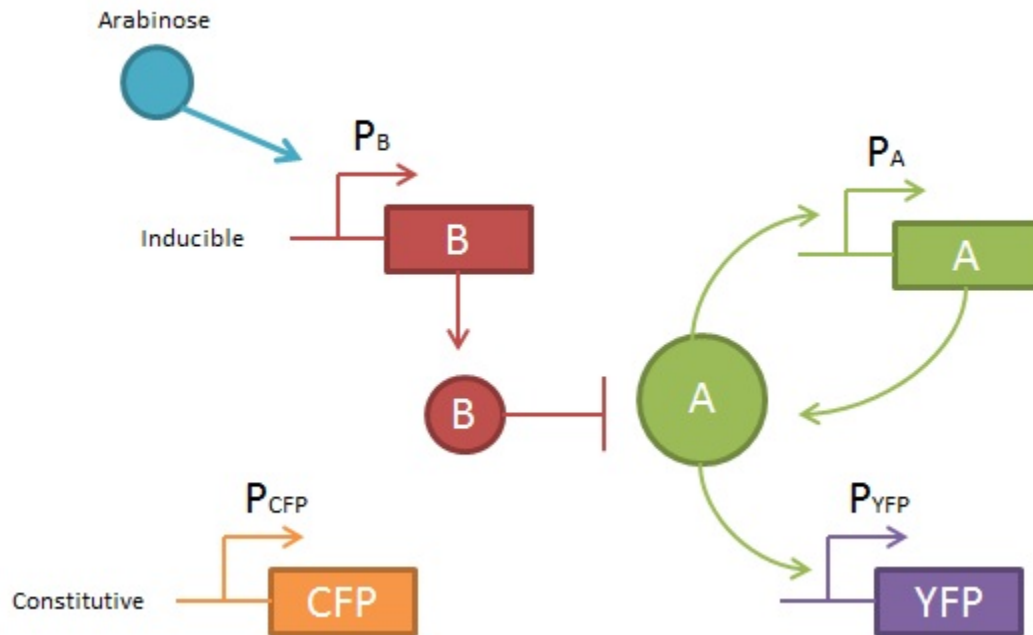

Fig 3: A model gene circuit with a positive feedback element
2.4. Now consider the same scenario with a positive feedback loop in which A can catalyze its own production (see figure 3). Suppose you transformed this system into *E. coli*. Bacteria with high Yellow Fluorescent Protein (YFP) expression (above some basal threshold) are